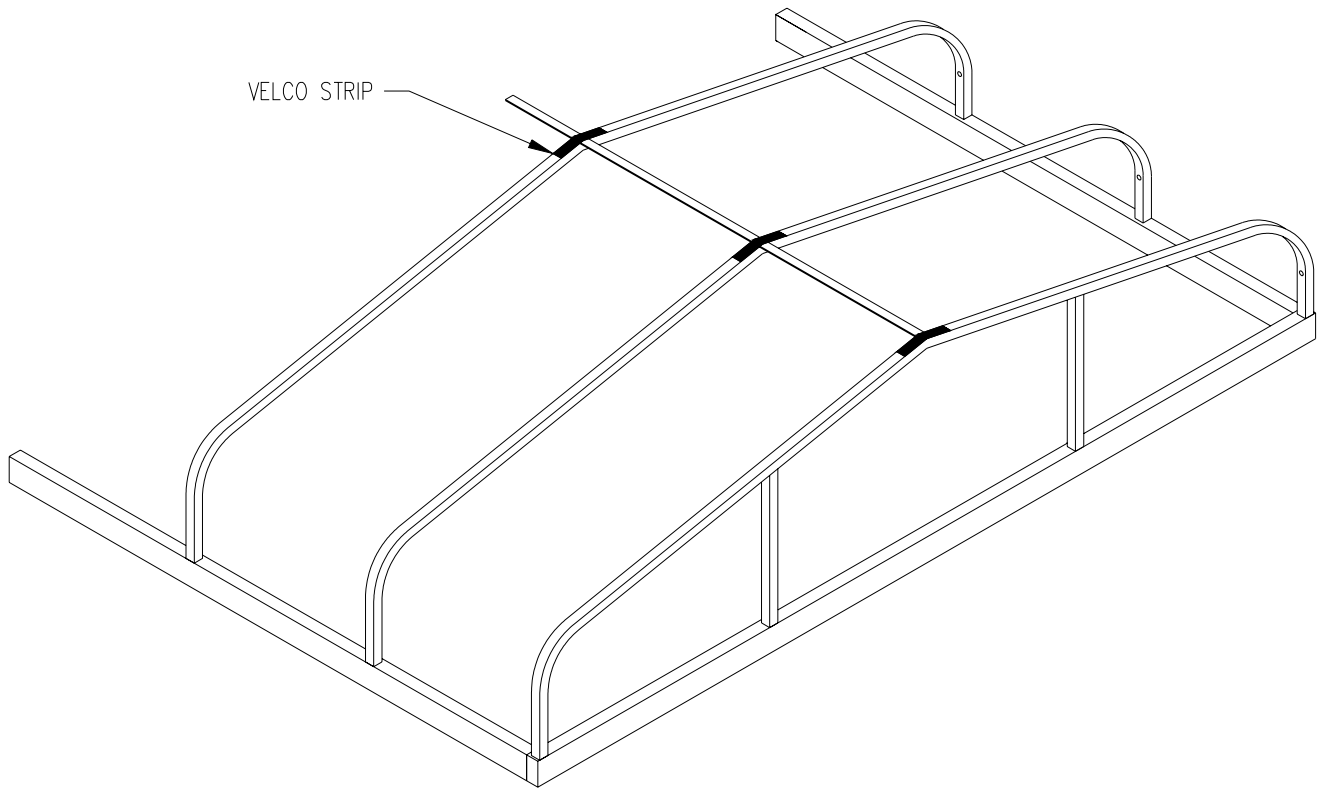

Figure 2-7.
12. Refer to **Figure 2-7**. Clean the top of the canopy ribs and carriage bolt head (about 2 inches longer than Velcro cut length each side of bolt) with cloth dampened in rubbing alcohol. Allow to dry.